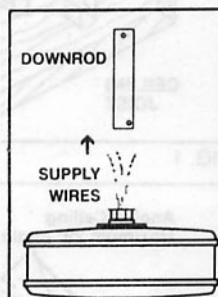

FIG. 8
Step 4. Carefully feed fan wires up through the downrod. (Fig. 8) Thread the rod into the coupling, next line up holes, then replace lock pin and hitch pin. Tighten set screws.